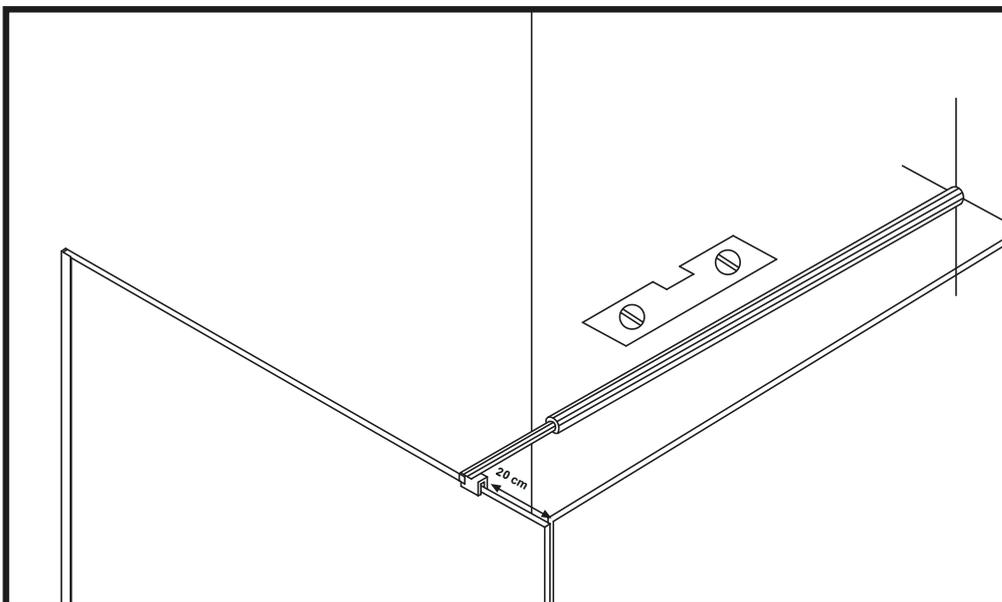
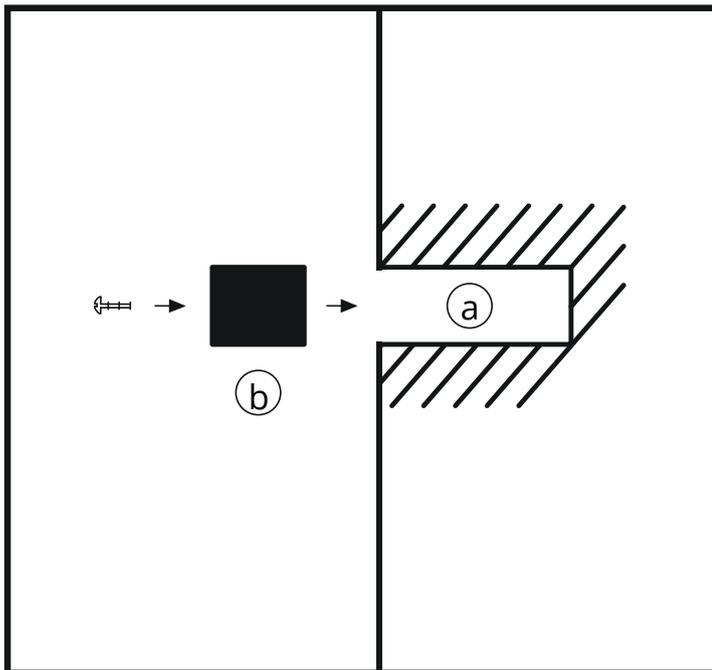
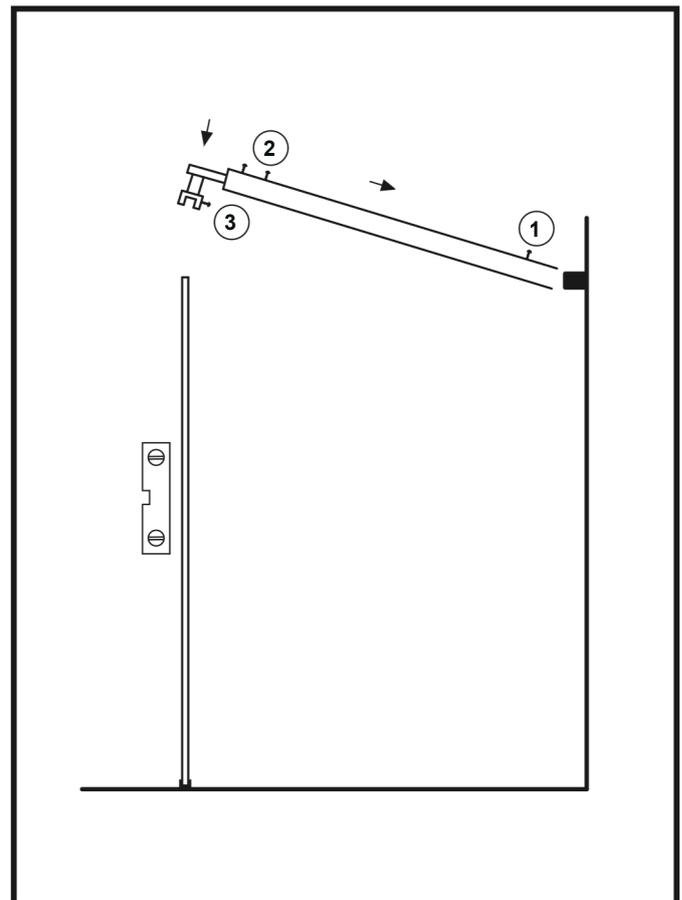

Figure 15
Figure 16
Figure 17
32. Install the telescopic tube at a 90-degree angle to the wall. The glass clamp must be positioned no more than 20 cm from the corner of the glass. (Figure 15)
33. Install the gaskets included with the tube between the telescopic tube mounting clamp (3) (the part that attaches to the glass) to prevent the glass from coming into contact with the metal. (Figure 17)
34. Carefully place the telescopic tube on the glass, in the previously measured and planned location. Make sure that the telescopic tube is vertically level. (Figure 15)
35. Make a mark on the wall (Figure 15) for drilling the mounting hole (a) (Figure 16) and remove the telescopic tube.
36. Drill the hole for the dowel (a) at the marked location, remove any dust from the hole, and insert the dowel. (Figure 16)
37. Unscrew the screw (1) on the telescopic tube (see Figure 17) and remove the wall-mounted part (b) (see Figure 16).
38. Insert part (b) into the previously drilled hole (a) in the wall and secure it with a screw. (Figure 16)
39. Take the telescopic tube and carefully install the wall mount (b) inside the telescopic tube and rest the other end (3) on the planned location, on the glass. (Figure 17)
40. Tighten and secure screw (1). NB! The mounting point must be oriented upwards!
41. Secure the telescopic mount to the glass with screw (3). NB! It is important that you have previously installed the gaskets included in the set between part (3) Metal parts must not come into contact with the glass, as this may cause the glass to break.
42. Adjust the glass using a level and secure the telescopic tube with screws (2), with their heads facing upwards.